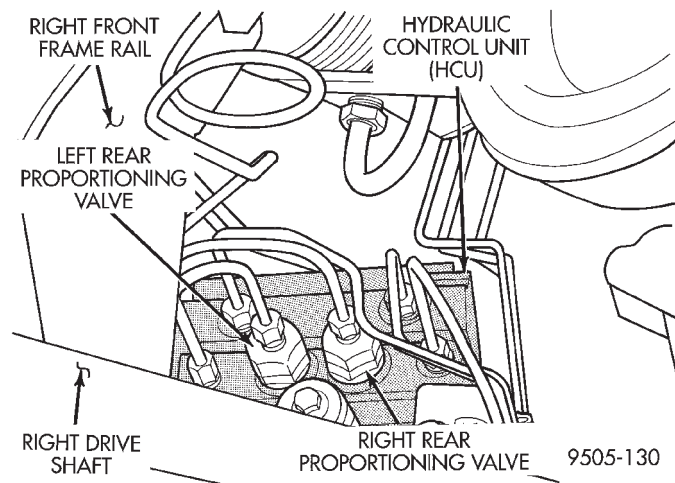

**Fig. 24 Rear Wheel Proportioning Valve Location On HCU**
- (1) Disconnect brake tube fitting from proportioning valve requiring removal from HCU (Fig. 24).
- (2) Remove proportioning valve requiring replacement (Fig. 24) from the HCU.